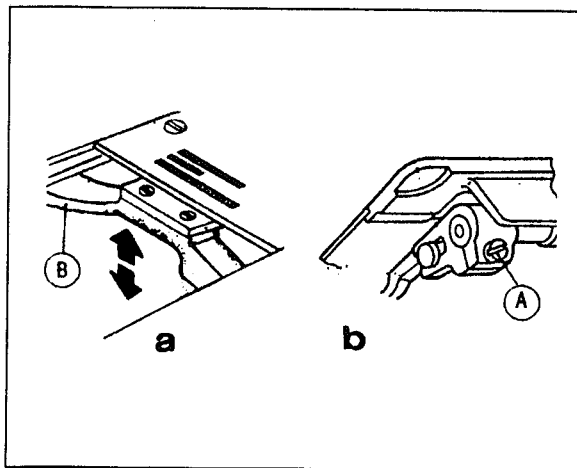

Fig. 23
18. ADJUST THE HEIGHT OF FEED DOG (Fig.23,24)
- 2) Loosen Screw (A) of feed lifting rock shaft crank right (See Fig.23,b)
- 3) Move Feed Bar (B) in the direction shown by the arrow in Fig. 23 (a) to adjust the height of the feed dog. The standard height of feed dog is that the top of feed dog is 1mm above Throat Plate Surface (B).
- 4) After the adjustment, be sure to tighten Screw (A).